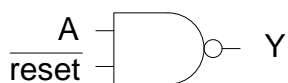

Fig. 10
10. Design the asymmetric gate as shown in Fig. 10. (5%)